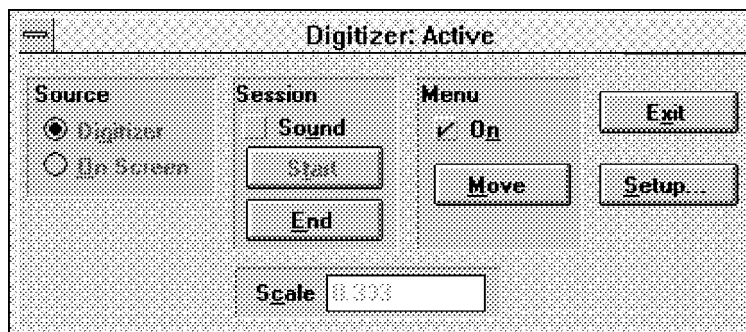

Figure 3-7
3. Click on the Start button in the Digitizer dialog box. Notice that the heading on the Digitize dialog box changes to Digitize: Active to indicate that the tablet digitizer is ready for use (see Figure 3-7).